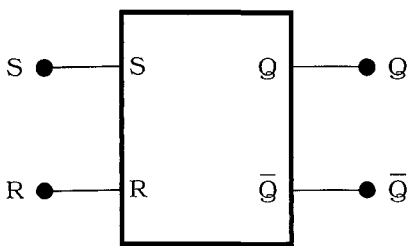

Fig. 3. S-R Bistable
The S-R bistable (Fig. 3) is the simplest form having two inputs, one called SET (S) to trigger the set (on) state, the other called RESET (R) to trigger the reset (off) state. Typical chips are the CMOS 4043 and the TTL 74118.